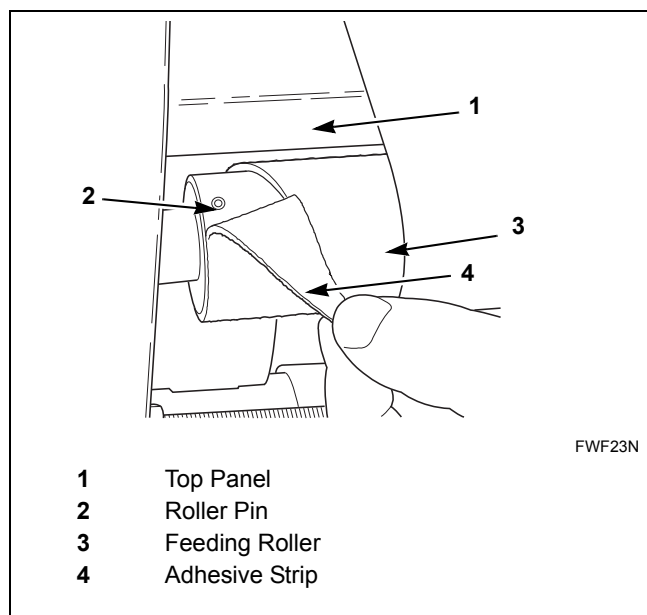

Figure 28
3. Peel back adhesive strip from left side of feeding roller to expose roller pin. Refer to *Figure 28*.